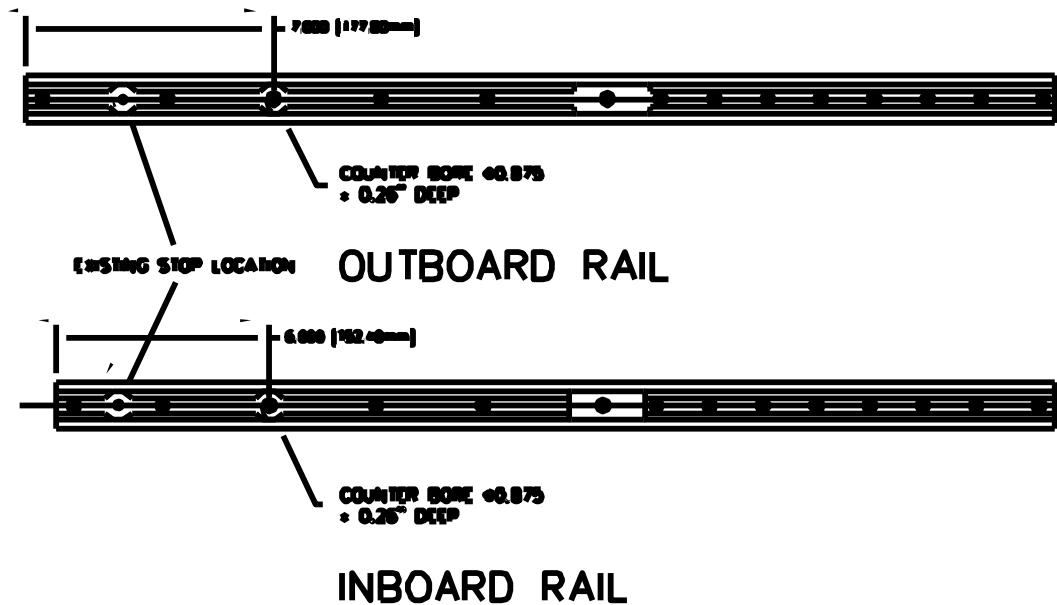

Figure 1
- 1.3. Rework the seat track rails to position a new seat stop recess concentric with the third screw position in each rail as per Figure 1.